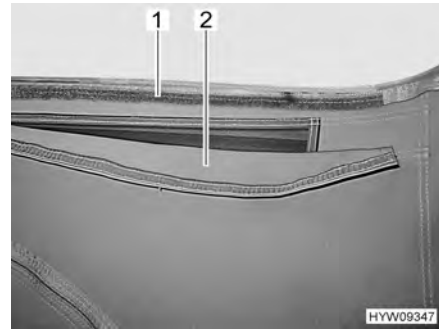

Fig. 36 Ventilation (open)
- Pull the fabric flap (Fig. 36,2) upwards and press down the Velcro strap (Fig. 36,1).